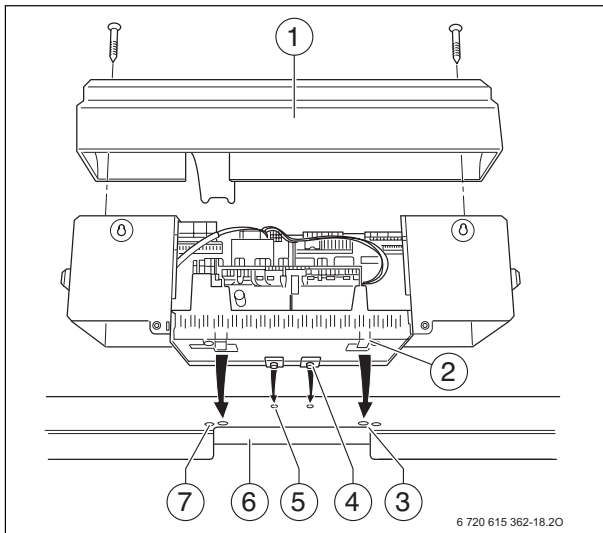
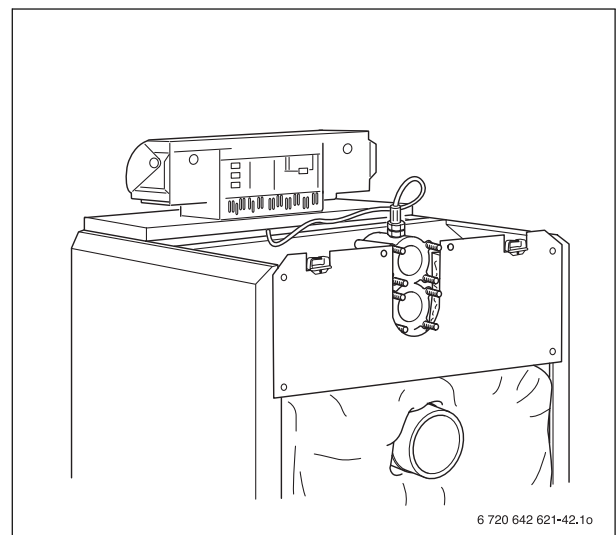

Fig. 46 Installing the control panel
Fig. 51 Boiler with fitted control panel
Fig. 46 shows the control panel and the front top cover from behind.
- ▶ Undo both screws in the terminal cover (Fig. 46, [1]). Lift the terminal cover up and off.
- ▶ Put the control panel in place. Fit the control panel at the front by inserting the alignment tabs (Fig. 46, [4]) into the oval holes in the front top boiler cover (Fig. 46, [5]). Pull the control panel forwards and then tip backwards. The flexible hooks (Fig. 46, [2]) must engage with the rectangular cutouts in the rear of the front boiler cover (Fig. 46, [3]).
- ▶ Screw the base of the control panel on the left and right of the cable duct (Fig. 46, [6]) on the front boiler cover using two self-tapping screws (Fig. 46, [7]).
- ▶ Screw terminal cover (Fig. 46, [1]) with the two self-tapping screws back into the control panel base (Fig. 51).